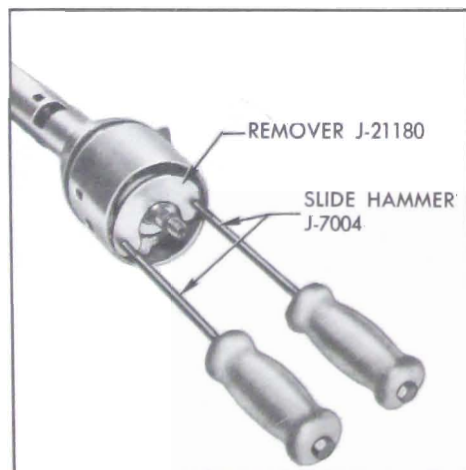

Figure 8-75—Removing Cover from Mast Jacket
5. Assemble two Slide Hammers J-7004 to Remover J-21180 and install inside cover as shown in Figure 8-75. Hold edges of Remover J-21180 against rim of cover and evenly work cover off of mast jacket.